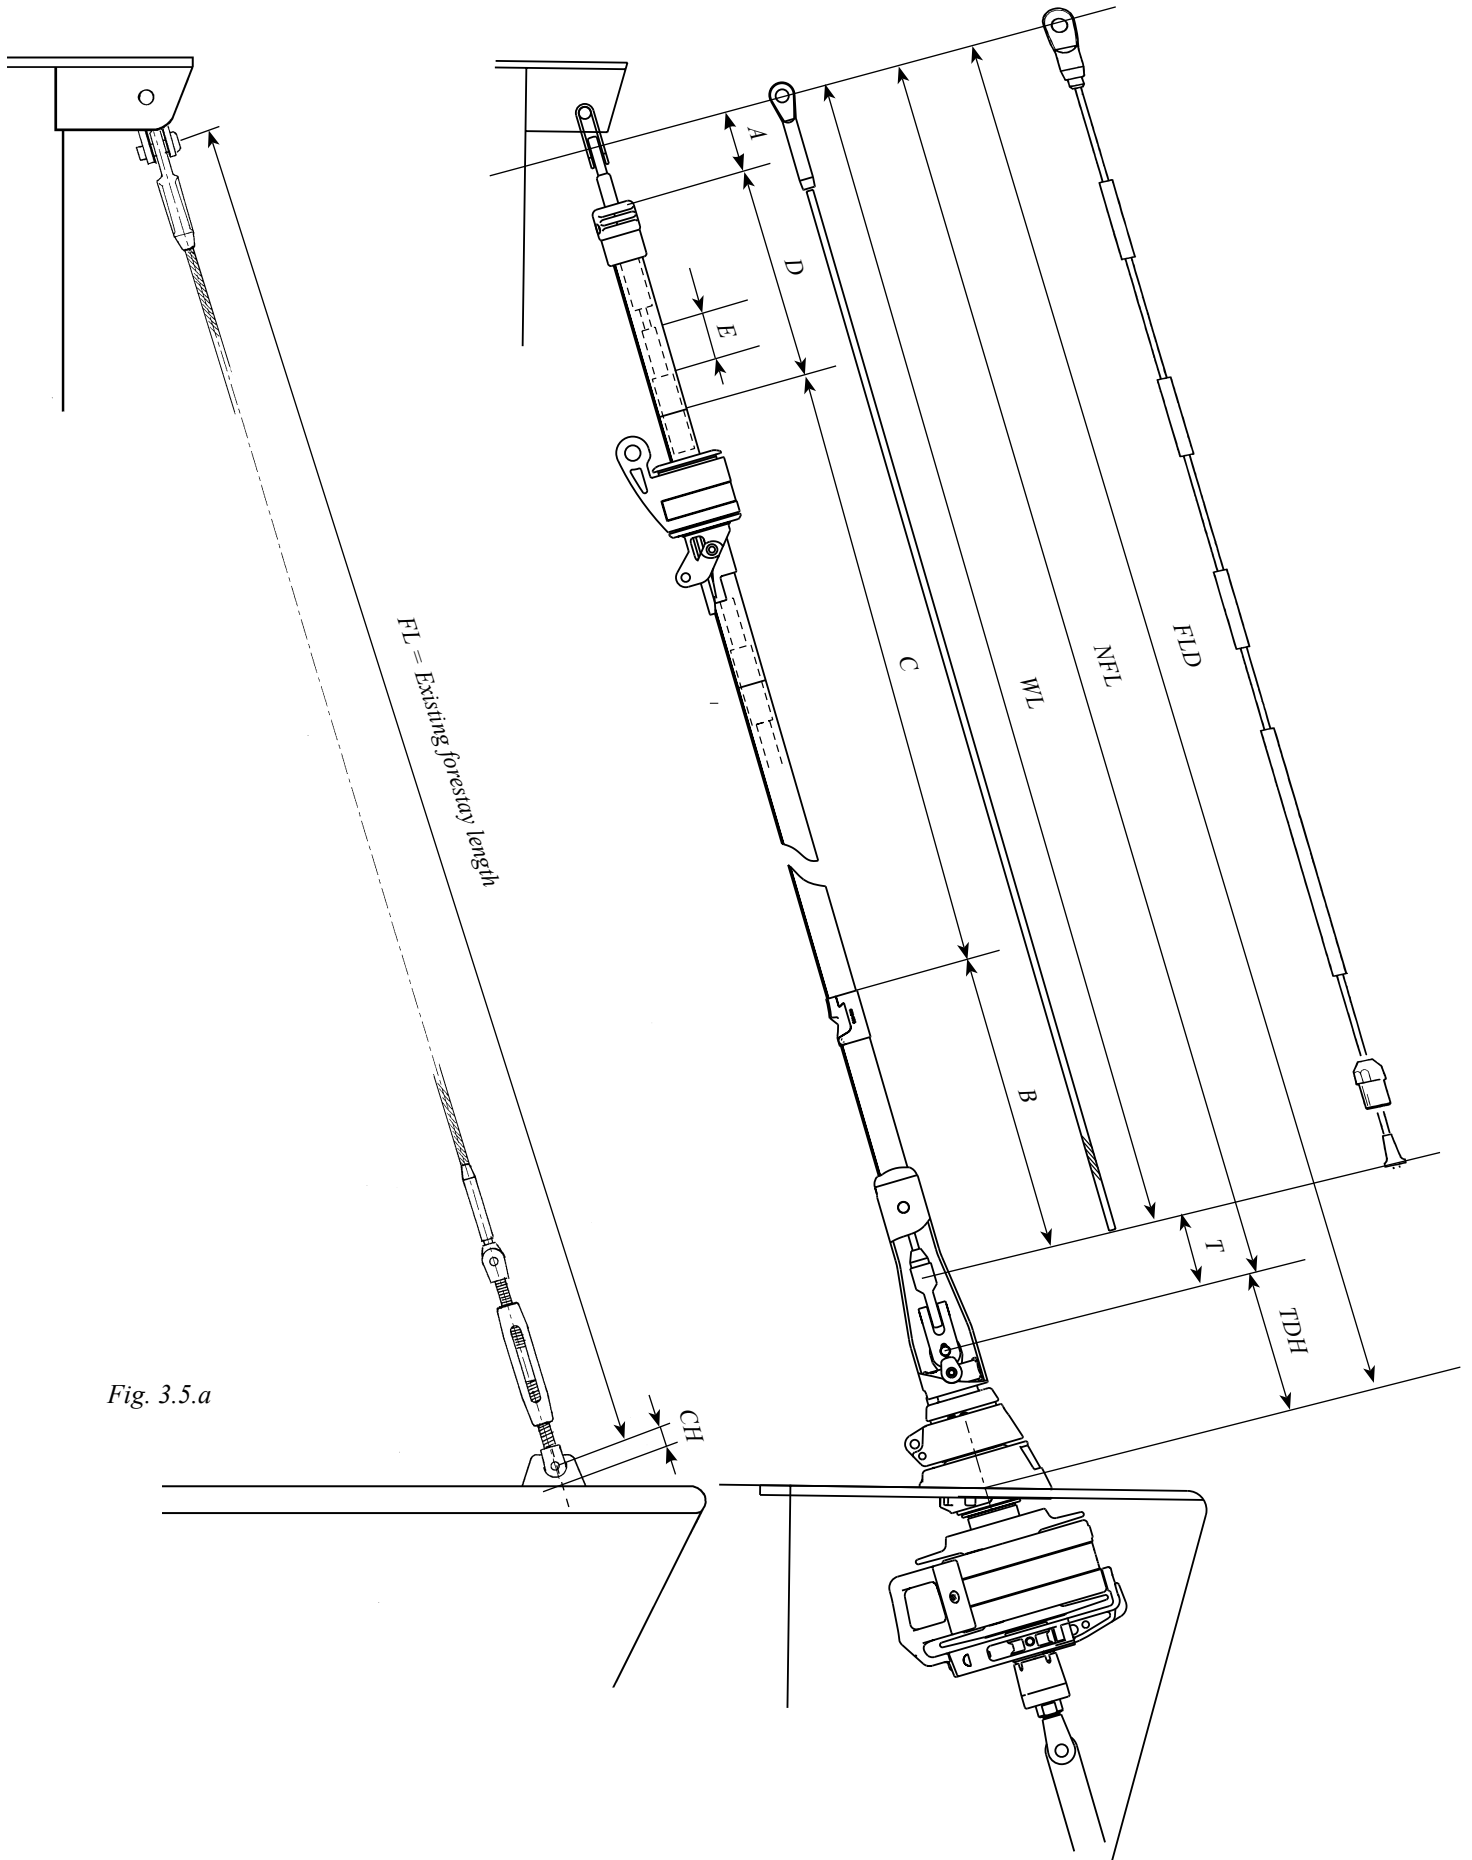

Fig. 3.5.a
13. Check the stay length FL in "**Calculation Table 1**" (3.5.1) & fig. 3.5.a.